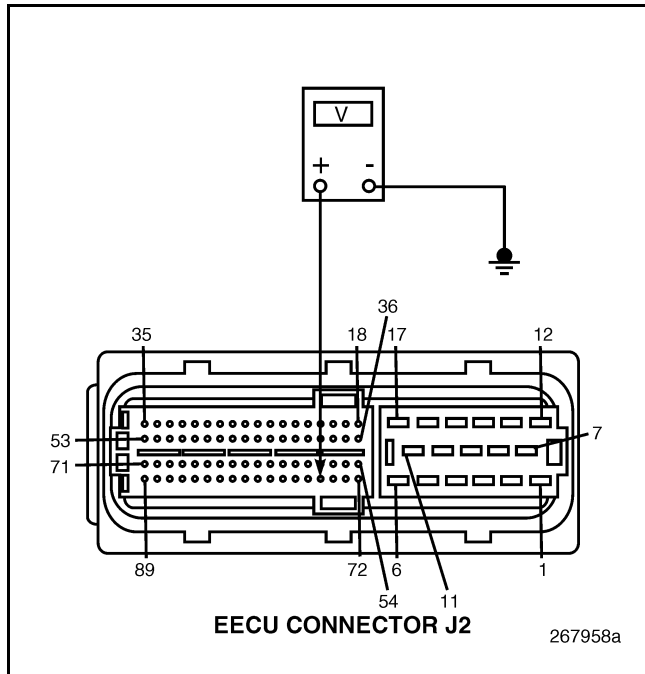

Figure 407
3. Disconnect the Engine Position (EP) Sensor connector.
5. Measure the voltage between EECU connector J2 pin 75 and a good ground (see Figure 407).